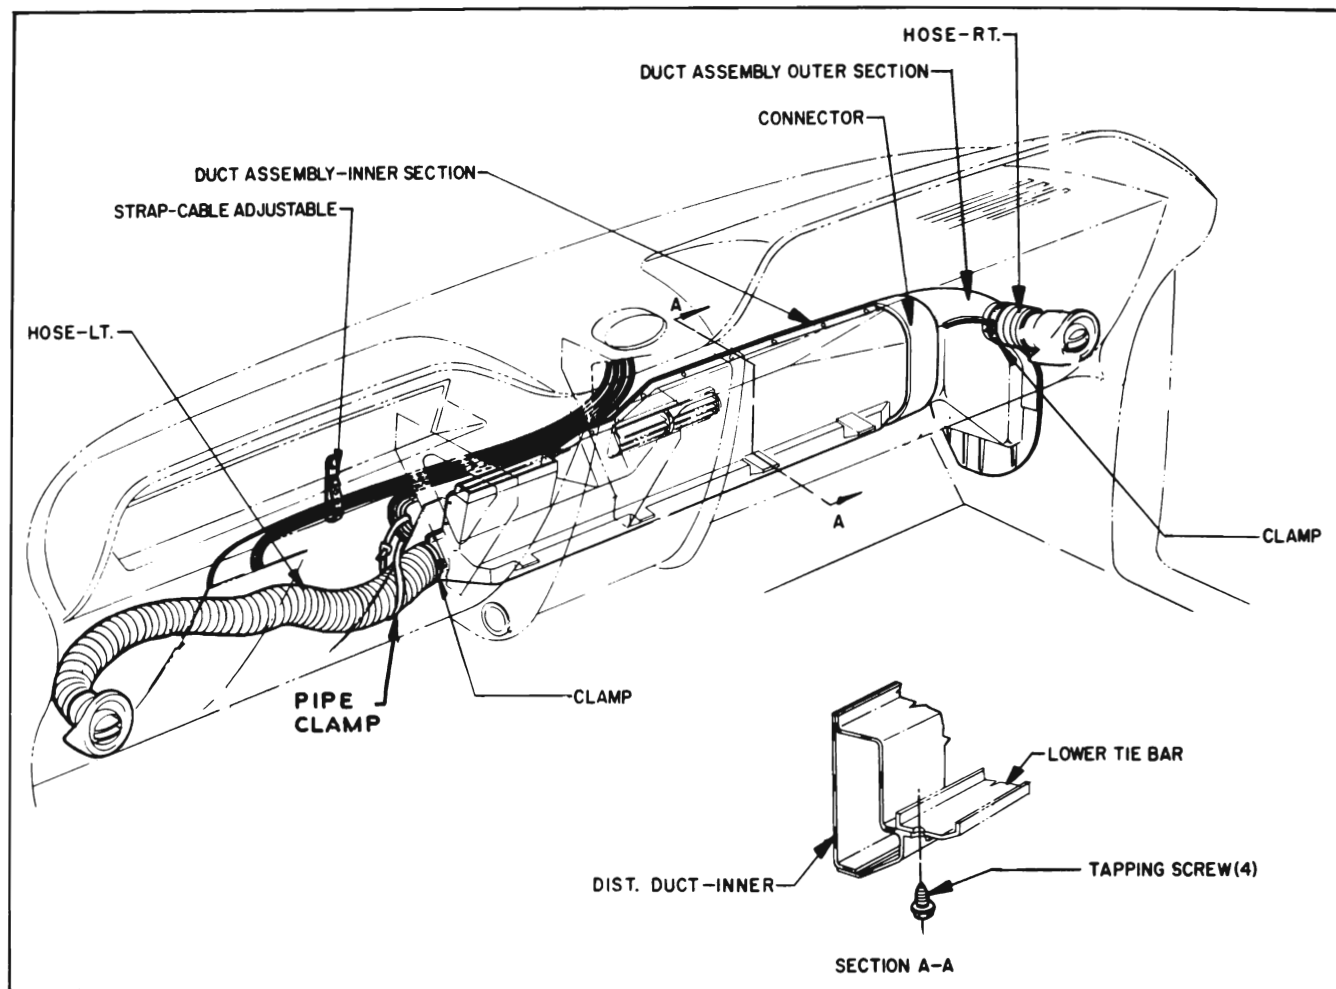

Figure 11-34—Air Conditioner Air Outlets
The air conditioner uses an air distribution system entirely separate from the heater and defroster, however, the same blower and valve housing is used to force air through the air conditioner ducts or the heater ducts or both systems simultaneously. Air conditioner air distribution system is shown in Figure 11-34.
9. Air Distribution System. The air conditioner air distribution system is entirely separate from the car heater air distribution system. The air conditioner air distribution duct mounts forward of the car heater duct with the right end positioned against the evaporator housing. See Figure 11-34.